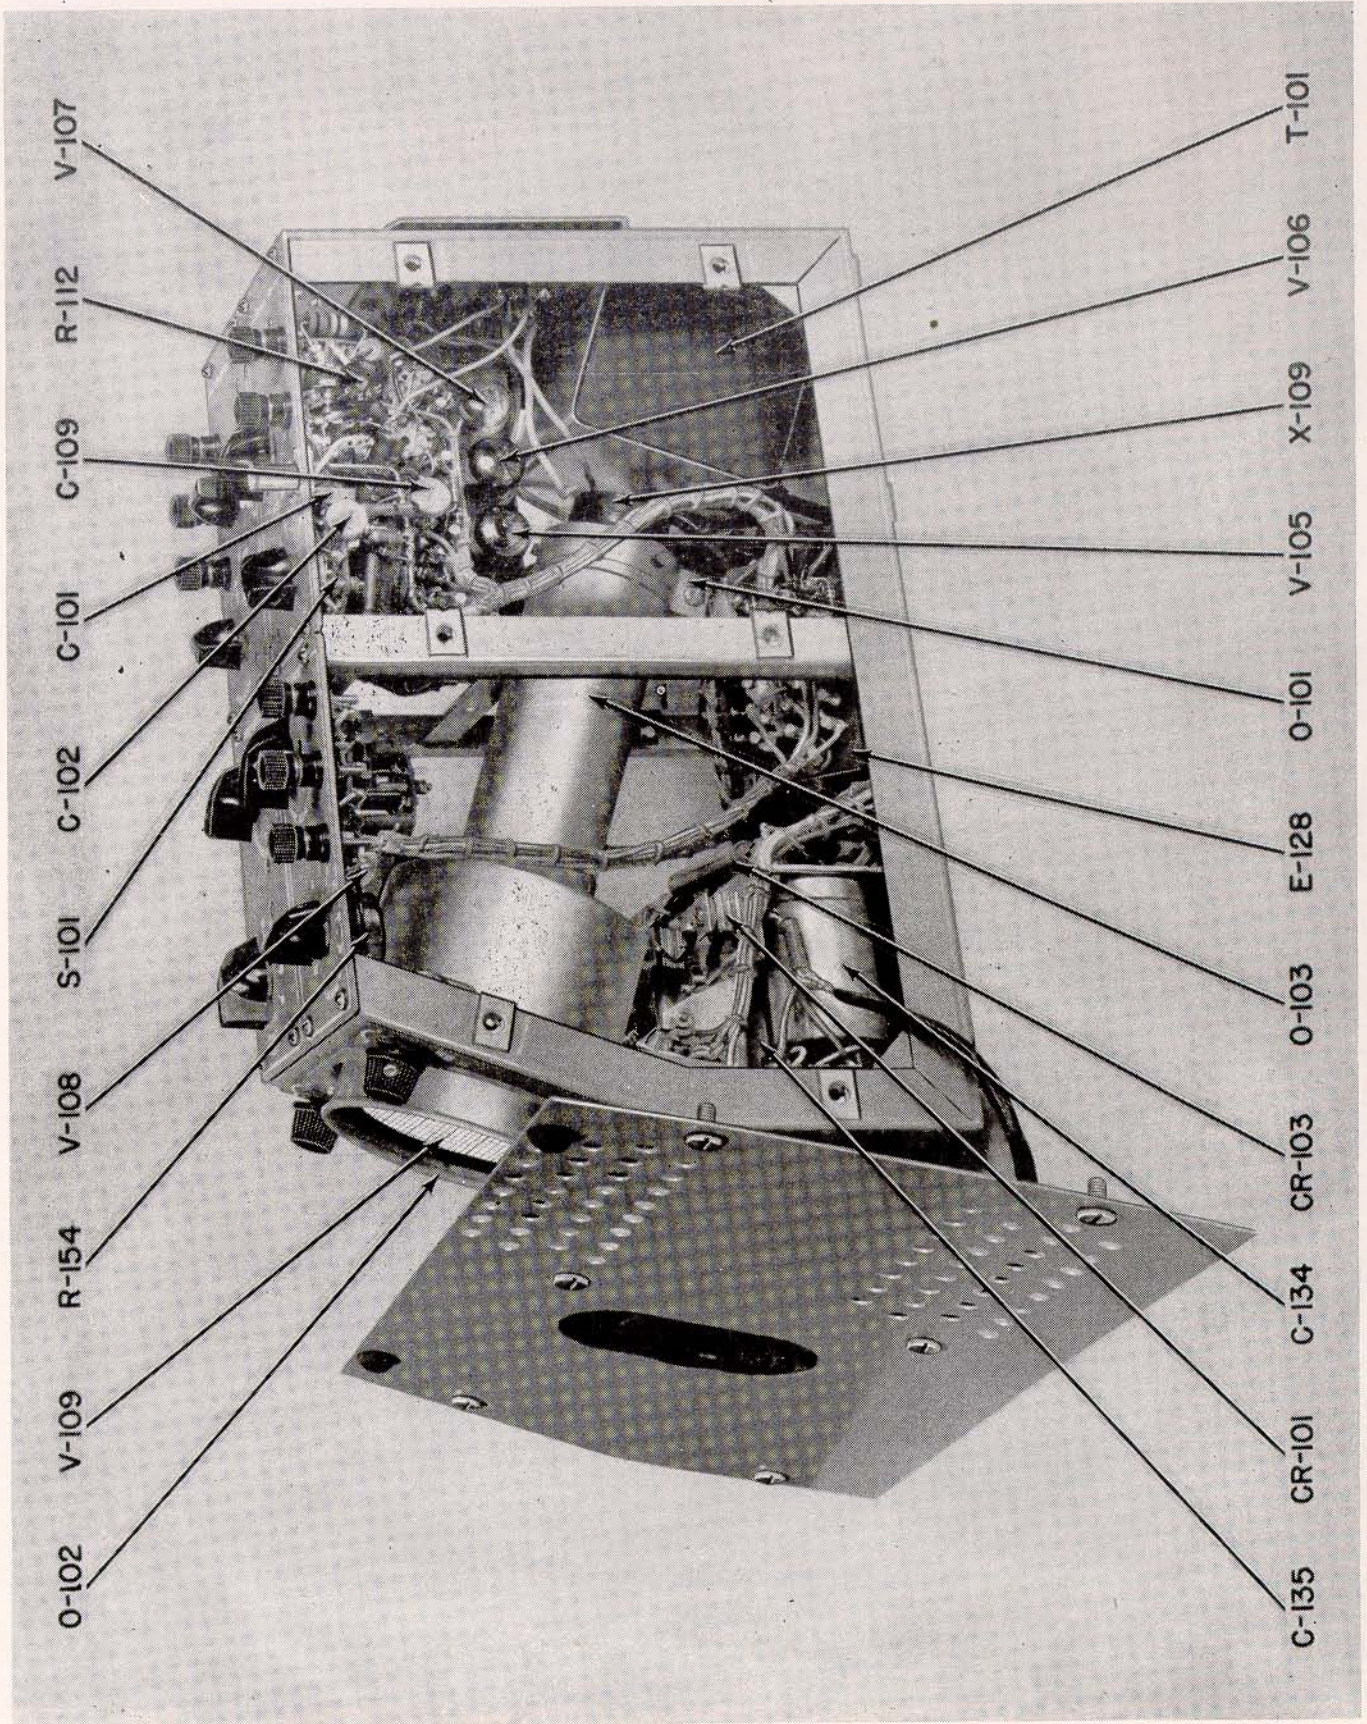
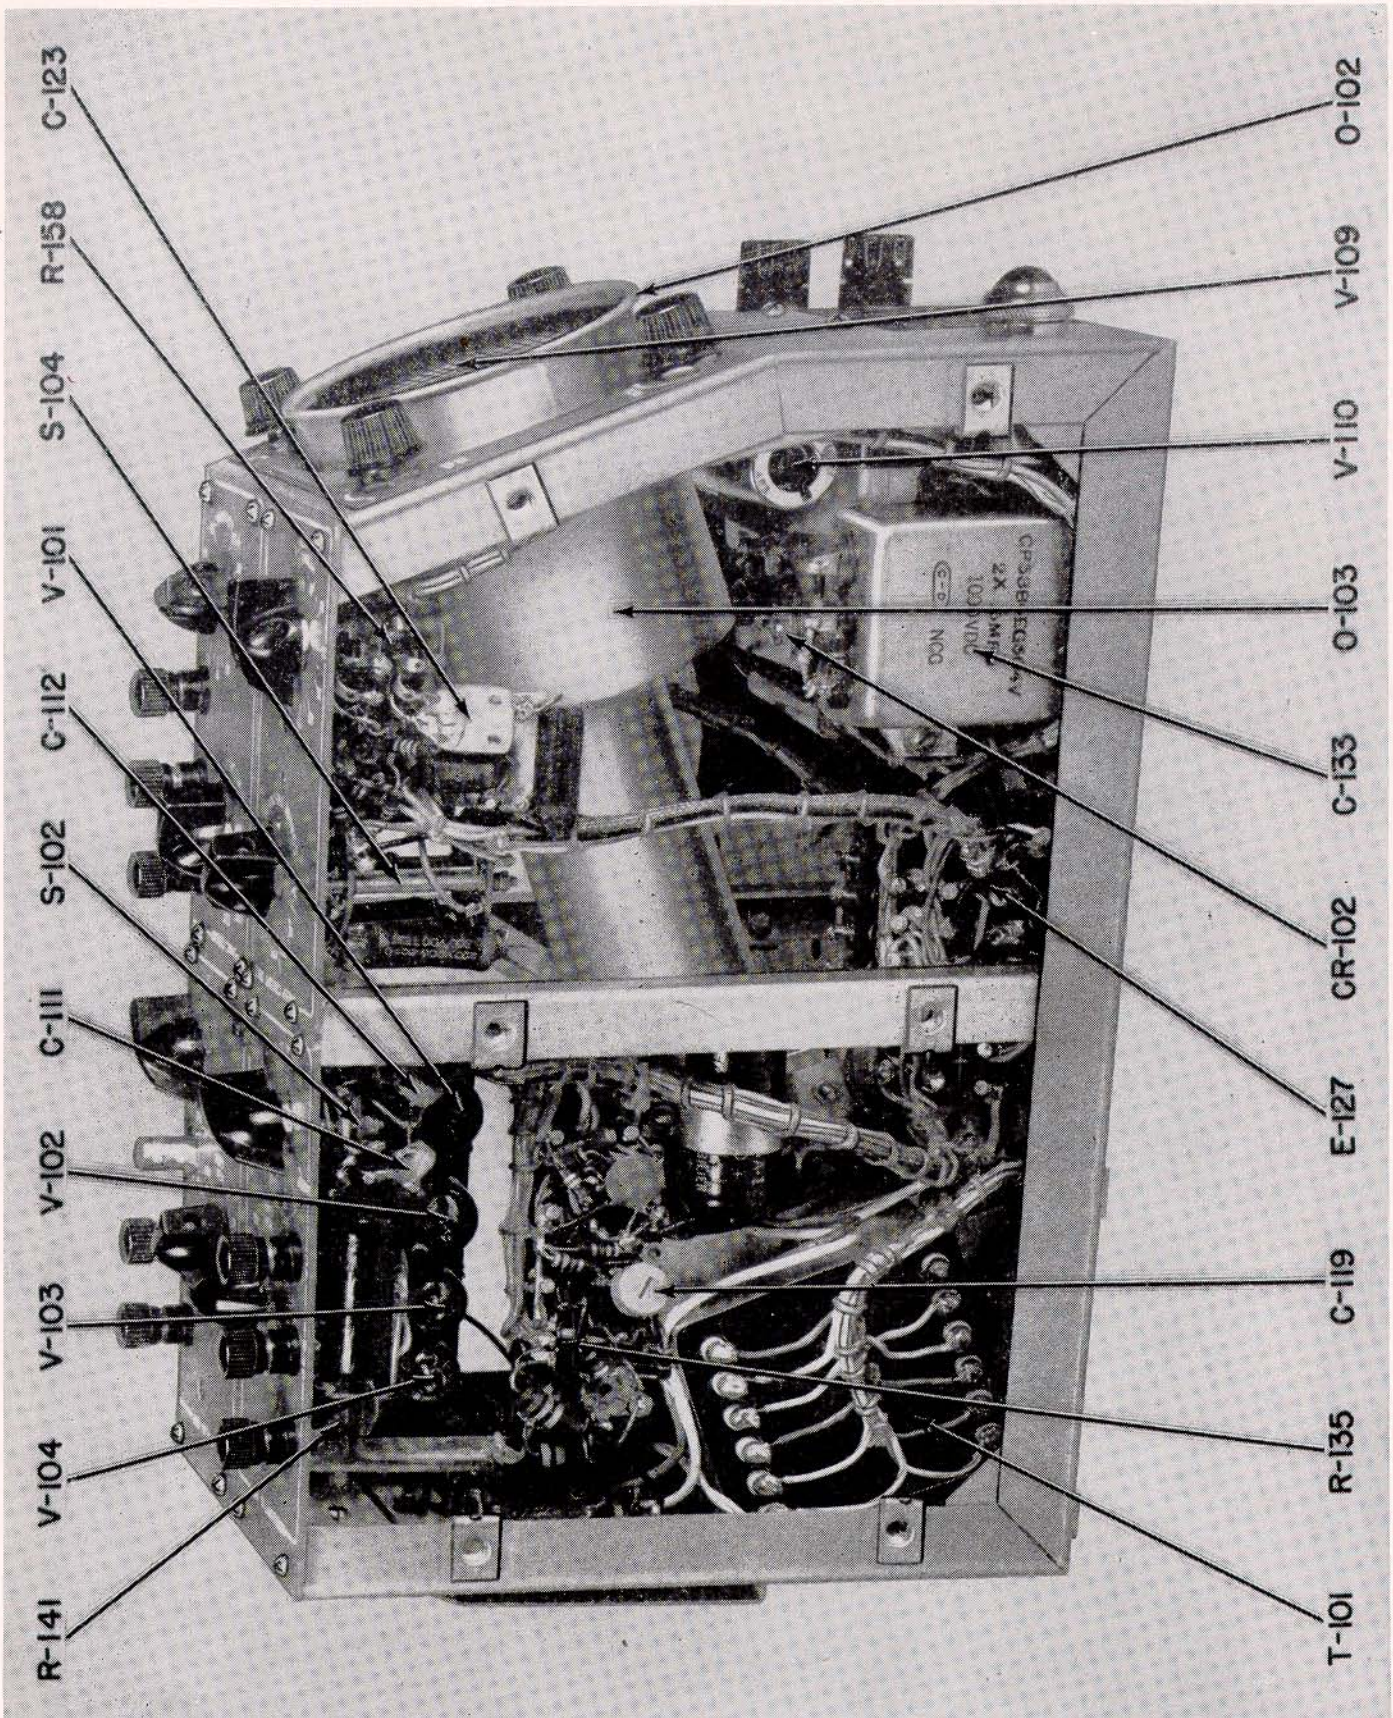
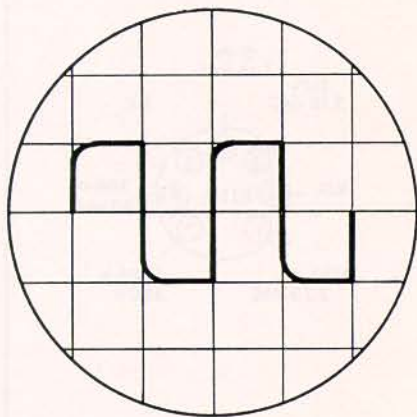
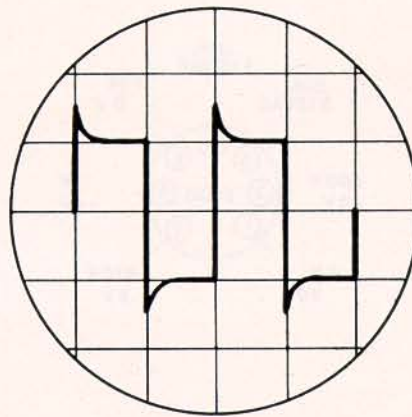

Figure 6-2. OS-8B/U, Right Side View, Cover and Side Panel Removed
Figure 6-3. OS-8B/U, Left Side View, Cover and Side Panel Removed
Figure 6-4
Figure 6-5
- (1) Remove the right side panel.
- (2) Loosen the cathode ray tube clamp (See Figure 6-2).
- (3) The cathode ray tube may then be removed by disengaging the socket and pulling forward and out with the tube visor.
## c. REPLACING THE TRANSFORMER (See Figure 6-3).
- (1) LACK OF SENSITIVITY, INSUFFICIENT POSITIONING, CROWDING, OR POOR FOCUS (ASTIGMATIC CONDITION)—If any one or more of these conditions exist in the vertical or horizontal amplifiers, readjustment of BIAS controls R119 and R141 respectively would be advisable. For the vertical amplifier, adjust BIAS ADJ. R119 (See Figure 3-4) until the voltage drop across plate load resistor R123 or R124 (See Figure 6-7) is 45 volts with the beam vertically centered on the cathode ray tube. For the horizontal amplifier, BIAS ADJ. R141 (See Figure 6-3) should be adjusted until the voltage drop across plate load resistor R145 or R146 (See Figure 6-7) is 90 volts
- (2) SHIFTING OF THE BEAM WITH GAIN CONTROL SETTINGS ON DC ATTENUATOR POSITION—When the vertical or horizontal attenuators are in the DC position and no signal is being fed into the DC input, the beam should not shift appreciably when the GAIN control is rotated. If the beam shifts vertically or horizontally it would be advisable to readjust potentiometers R112 (See Figure 6-2) or R135 (See Figure 6-3) respectively. The easiest way to accomplish this is to center the beam with the POSITIONING control while the GAIN control is in its extreme counter-clockwise position, with no signal applied to the amplifier, and with the intensity reduced so as not to burn a hole in the cathode ray tube screen. Then, turn the GAIN control to its extreme clockwise position and re-center the beam with potentiometer R112 (vertical) or R135 (horizontal), depending upon whether the beam moves vertically or horizontally. This process may have to be repeated more than once.
- (4) LACK OF FREQUENCY RESPONSE, SQUARE WAVE ROUNDING, OR EXCESSIVE SQUARE WAVE OVERSHOOT (See Figures 6-4, 6-5 and 6-6)—In making any adjustments of the frequency characteristics of the amplifiers or the compensation of the attenuators, it is important that a good quality square wave generator be used in order to insure good pulse response.
3% overshoot as indicated in Figure 6-6. If the trace exhibits rounding as in Figure 6-4, or excessive overshoot as in Figure 6-5, readjustment of trimmer condenser C109 (See Figure 6-2) would be advisable. If, after the adjustment indicated above, the square wave trace appears distorted on the AC divide by 10 (AC-10) position, adjust trimmer condenser C101 (See Figure 6-2) until the trace appears normal as in Figure 6-6. If the distortion appears on the AC divide by 100 (AC-100) position, adjust C102 (See Figure 6-2) as above.
With the vertical amplifier driven by a sawtooth from an external source to provide a vertical sweep, the horizontal attenuator in the AC divide by 1 (AC-1) position, and a 25 kc square wave on the horizontal amplifier, the trace should exhibit a fast rise time and about 3% overshoot as indicated in Figure 6-6. If the trace exhibits rounding as in Figure 6-4, or excessive overshoot as in Figure 6-5, readjustment of trimmer condenser C119 (See Figure 6-3) would be advisable. If, after the adjustment indicated above, the square wave trace appears distorted on the AC divide by 10
(AC-10) position, adjust trimmer condenser C111 (See Figure 6-3) until the trace looks normal as in Figure 6-6. If the distortion appears on the AC divide by 100 (AC-100) position, adjust trimmer C112 (See Figure 6-3) as above.